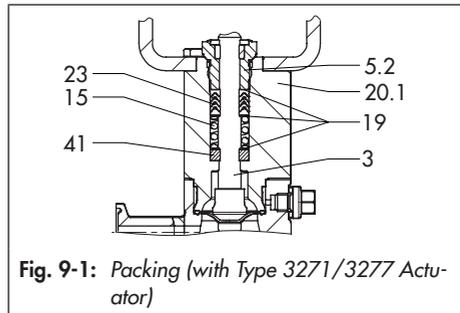
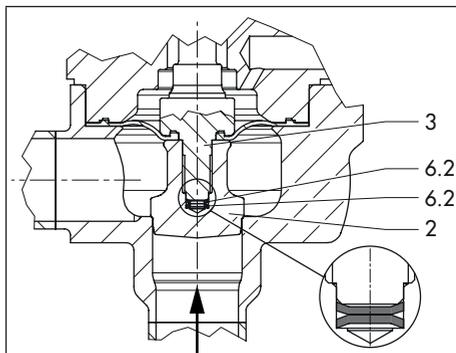
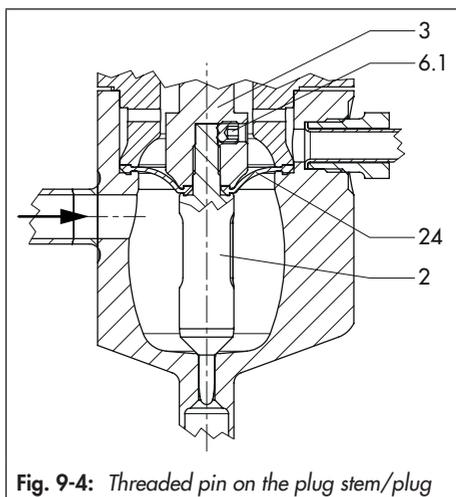
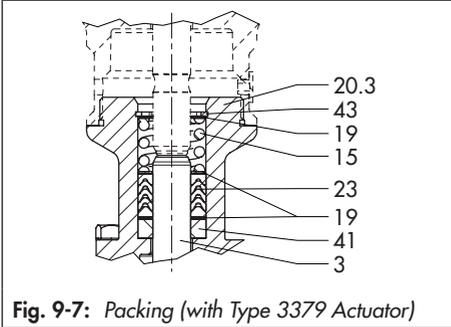

Fig. 9-1: Packing (with Type 3271/3277 Actuator)
Fig. 9-3: X shape of washers
Fig. 9-4: Threaded pin on the plug stem/plug
Fig. 9-7: Packing (with Type 3379 Actuator)
Legend for Fig. 9-1 to Fig. 9-4
5. **For micro-flow valve version:** unscrew threaded pin (6.1) (see Fig. 9-4).
6. Unscrew the plug stem (3) from the plug (2).
7. Remove diaphragm (24).
8. **For standard version:** remove retaining washers (6.2) (see Fig. 9-3).
10. Apply a suitable lubricant to the thread of the plug stem (3).
11. Screw a new plug (2) onto the plug stem (3) using a suitable tool. Observe tightening torques.
13. Unscrew the plug stem (3) from the plug (2).
14. **For standard version:** insert new retaining washers (6.2) inside the plug's threaded hole (they must be opposed to form an X shape) (see Fig. 9-3).
15. Insert a new diaphragm (24) into the new plug.
16. Screw the new plug (2) back onto the plug stem (3) again using a suitable tool. Align the plug stem with the mounted position mark made earlier. To do this, clamp the plug into a suitable clamping fixture (e.g. vise with soft protective jaws) and pull it with a suitable tool.
18. **For micro-flow valve version:** secure plug (2) with threaded pin (6.1) (see Fig. 9-4).
21. Push the plug (2) together with plug stem (3) and diaphragm (24) into the standard yoke (20).
22. Place the standard yoke (20) together with the plug stem (3), plug (2) and diaphragm (24) onto the body (1).
23. Apply a suitable lubricant to the bolts (34).
24. Tighten the screws (34) on the standard yoke (20) gradually in a crisscross pattern until the valve bonnet touches the body flange.
Legend for Fig. 9-3 to Fig. 9-7